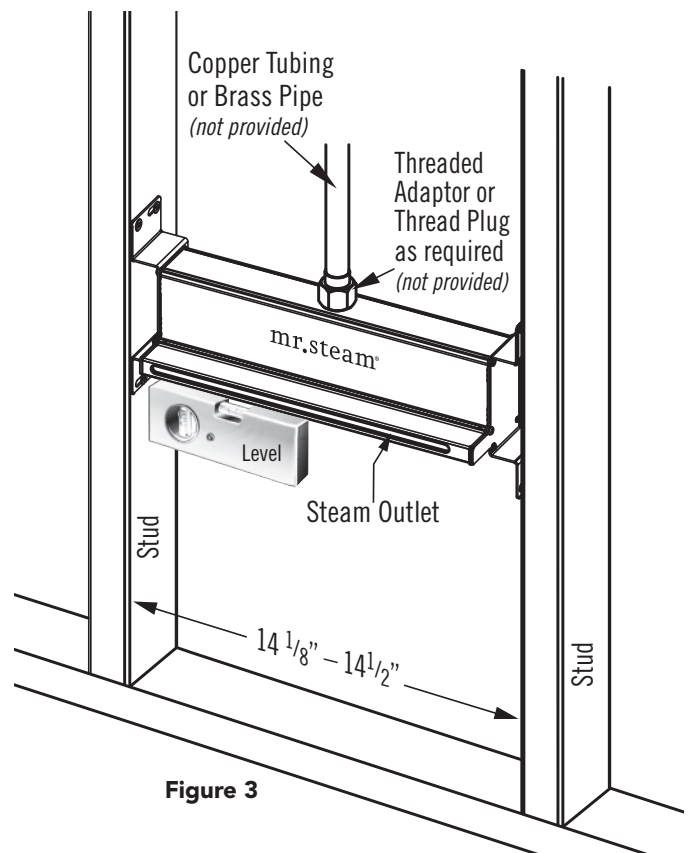

Figure 3
STEP 4. Use a level to ensure the steam head is level (see Fig. 3) and the steam head face is flush or extends 1/8" from the finished wall surface. Install the four screws in the mounting holes to secure the steam head to the studs.